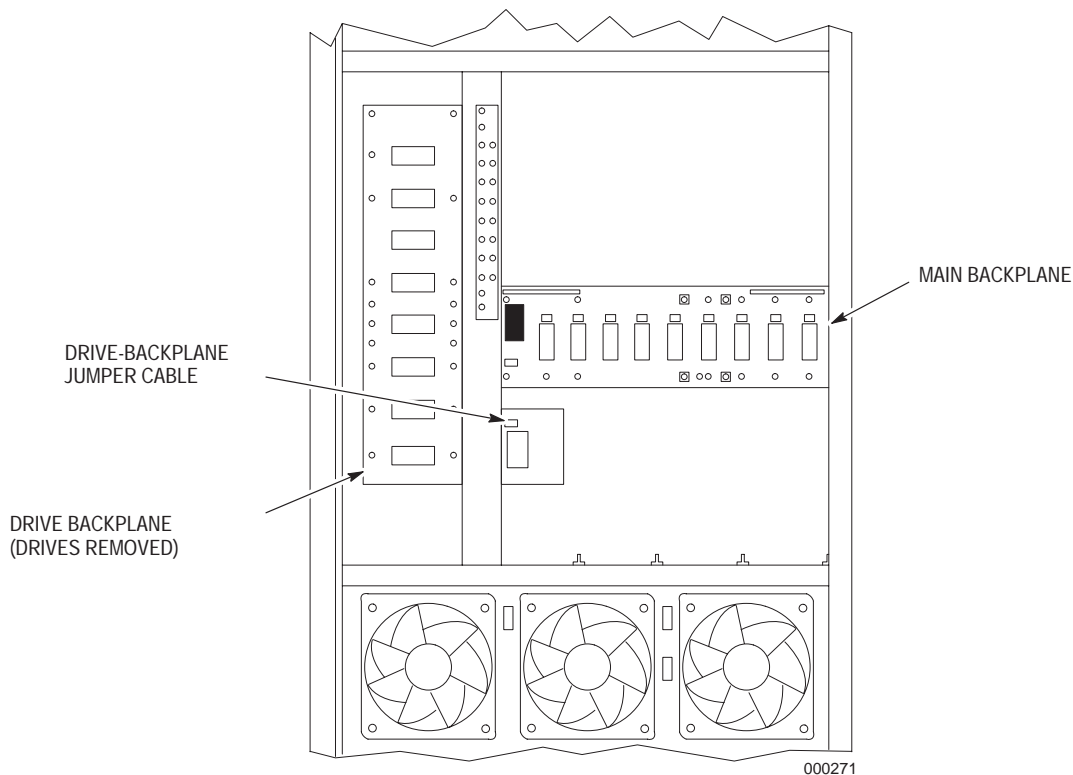

Figure 11-17. Drive Backplane (Front View).
Unless its connectors have become damaged from disk drives or a tape drive being installed with excessive force, a drive backplane does not need to be replaced. Drive backplanes are replaced from the front of the server. Figure 11-17 shows the upper shelf of the drive backplane with the drive modules removed.
12. Disconnect the drive-backplane jumper cable from the drive-backplane connector (Figure 11-17).
17. Reconnect the drive-backplane jumper cable to the drive backplane connector (Figure 11-17).